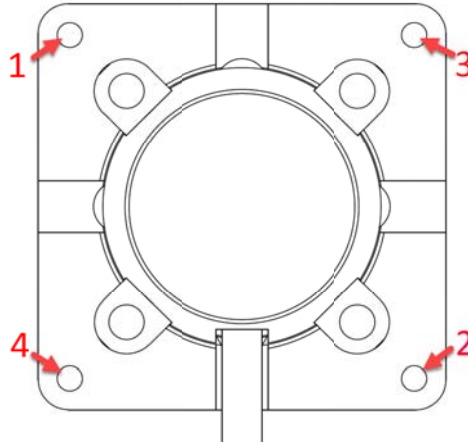

Figure 2
3. Use the pattern shown in Figure 2 to begin tightening the screws: